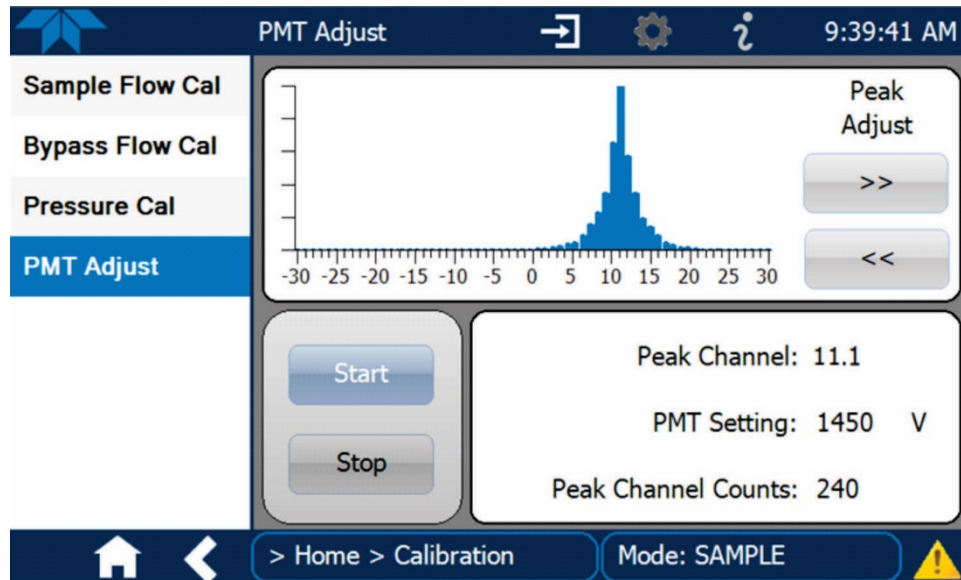

Figure 14. PMT adjust screen.
7. Gently tap the SpanDust™ bottle to barely agitate the contents just enough to allow the dust to be pulled into the sensor, and allow 30 seconds for the Peak Channel reading in this screen to respond (Figure 14).